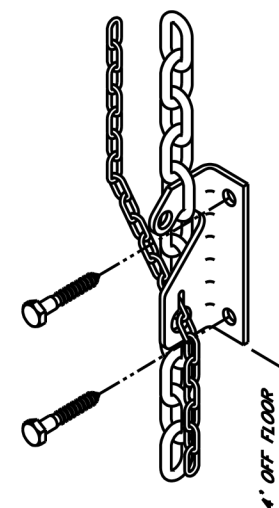

Figure 5
If the operator is furnished with a chain hoist (Model H) refer to **Figure 5** to install the chain hoist. Pass the hand chain [Item 8] over the chain pocket wheel, and through the guide holes in the chain guard. Fasten the ends of the chain together (to make one continuous loop) by opening and re-closing one link using two pairs of pliers. If the chain is too long, shorten it to the desired length by removing links.
Use lag screws to fasten the chain hoist holding bracket furnished with the operator to the wall vertically in line with the sash chain about four feet off the floor (**Figure 5**). This bracket is also used to hold the release chain in place for both the chain hoist equipped units (H) and the floor disconnect units (J).